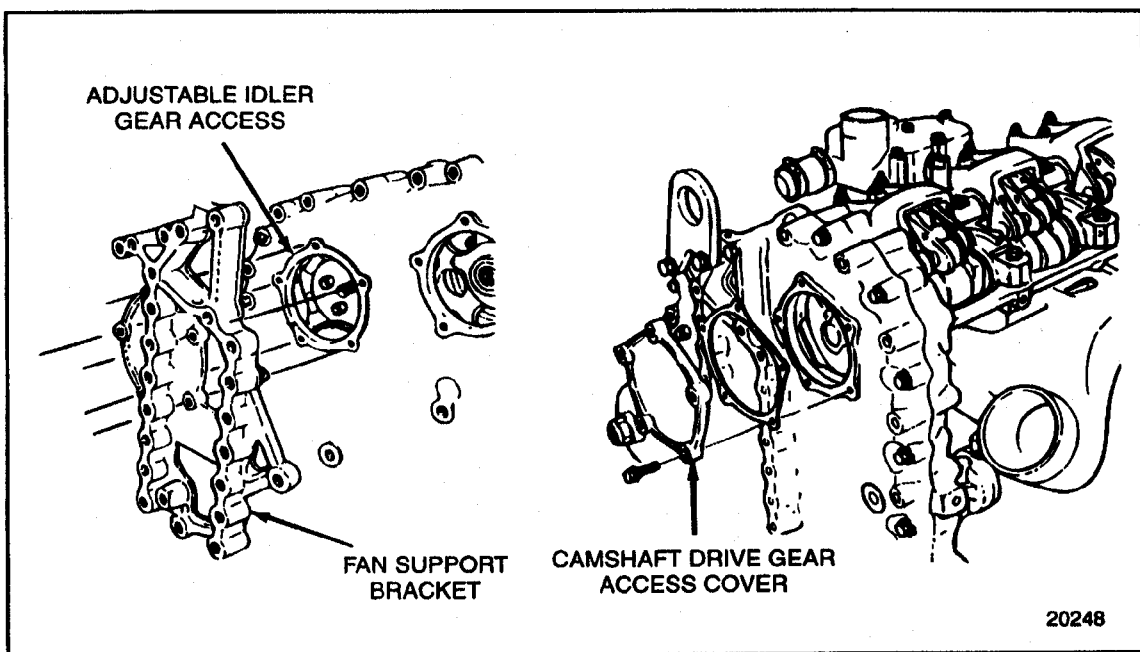

Figure 1-320 Camshaft Drive Gear Access Cover and Adjustable Idler Gear Access
4. Remove the five bolts that secure the camshaft drive gear access cover to the gear case cover. See Figure 1-320.